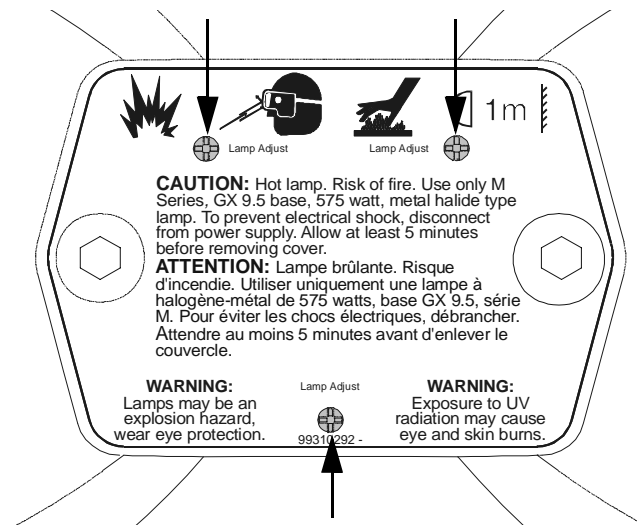

Figure A.3. Lamp Optimization Screws
3. Using a #2 phillips-head screw driver, rotate the three lamp adjust screws until you achieve a uniform flat field. Refer to Figure A.3. When the lamp is correctly optimized, the field will have an even disbursement of light throughout the entire beam diameter.